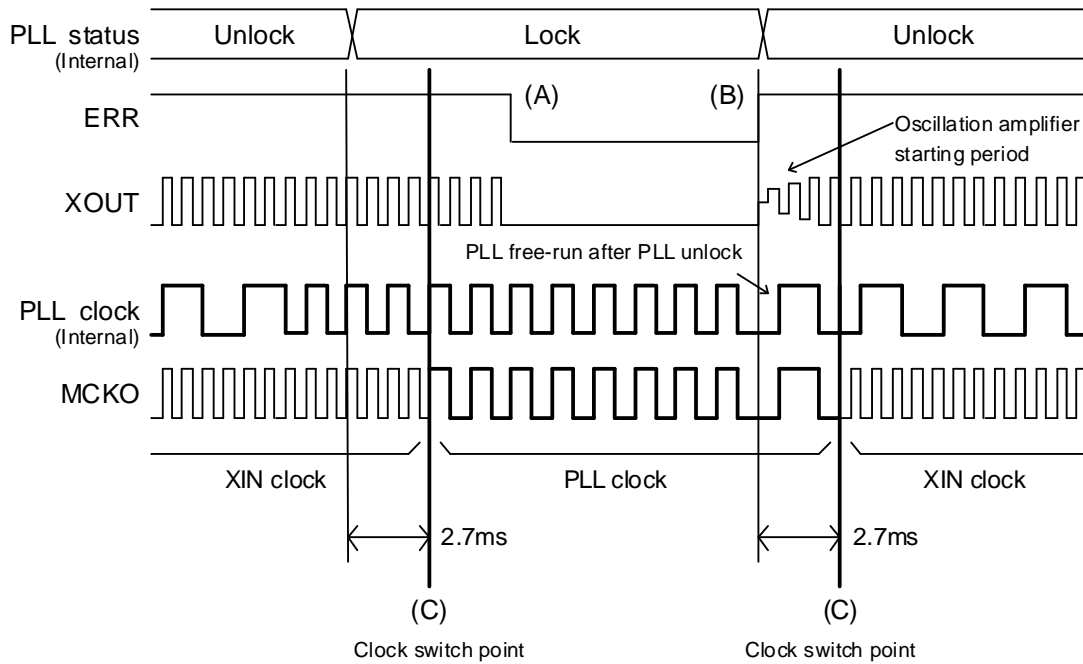

Figure 3-1 Clock Switch Timing Chart 1
- The oscillation amplifier is stopped at the falling edge of ERR in the course of PLL lock-in. (Fig. 3-1 (A))
- The oscillation amplifier operates at the rising edge of ERR in the course of PLL unlock. (Fig. 3-1 (B))
- The clock switches after about 2.7ms from the point of change in PLL state. (Fig. 3-1 (C))